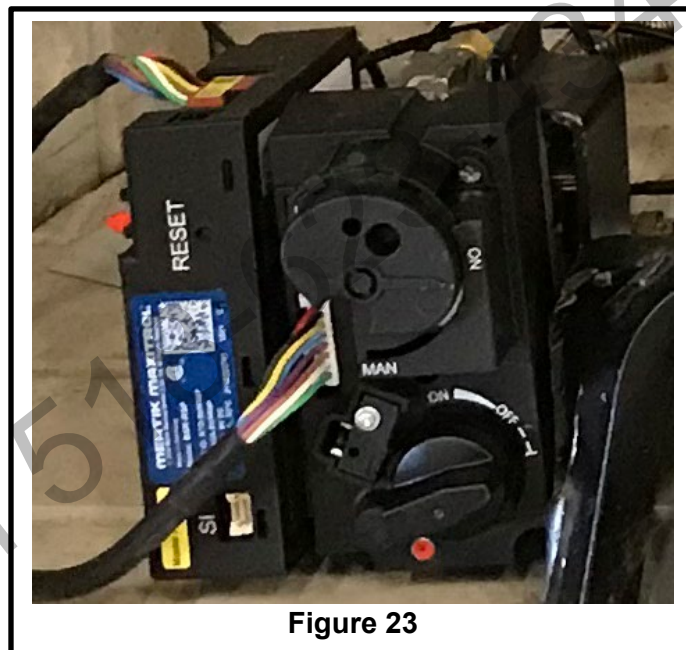

Figure 23
1. Locate the RESET button located on the top of the front face of the receiver inside the small hole labeled RESET (Figure 23). Then, using a small screwdriver (or end of a paperclip), gently press the RESET button positioned inside, and hold.